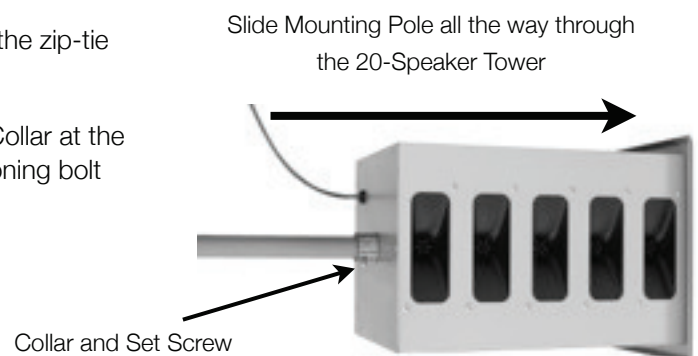

Figure 4
3. Slide the 1 in. (outside diameter) Mounting Pole through the Collar at the bottom of the 20-Speaker Tower until it slides over the positioning bolt inside the top of the Tower (Figure 4).